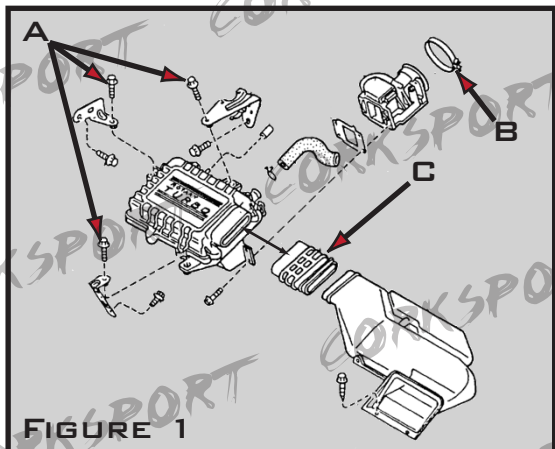

FIGURE 1
A. DISCONNECT THE AIRBOX FROM THE THREE MOUNTING POINTS SHOWN IN FIGURE 1, ITEM A USING A 10MM SOCKET.
B. DISCONNECT THE AIR FLOW METER FROM THE FACTORY RUBBER TURBO INLET PIPE USING A 10MM SOCKET OR PHILLIPS SCREWDRIVER (FIG 1, B).
C. DETACH INTAKE SNORKEL (FIG 1, C) FROM FACTORY AIRBOX AND UNPLUG FACTORY WIRING HARNESS FROM AIRBOX. EXTRACT AIRBOX AND AIR FLOW METER FROM ENGINE COMPARTMENT.